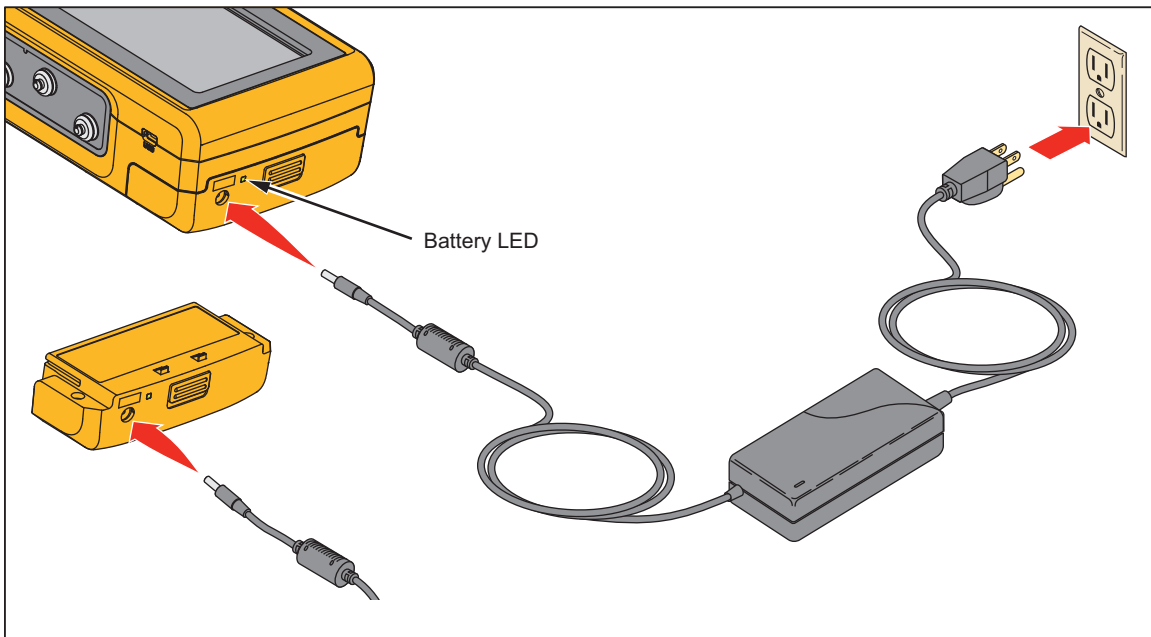

Figure 22. External Battery Charging Connections
1. As shown in Figure 22, connect the ac/dc power supply to the power connector on the battery pack.